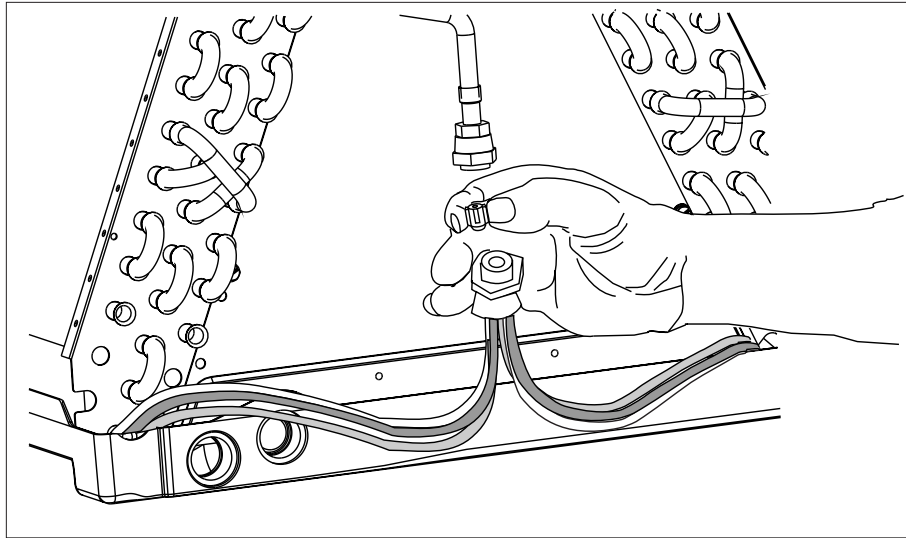

Figure 5. Restrictor Insertion in Distributor Body
5. Insert the new restrictor orifice in the distributor body **rounded end down** as shown in Figure 5.